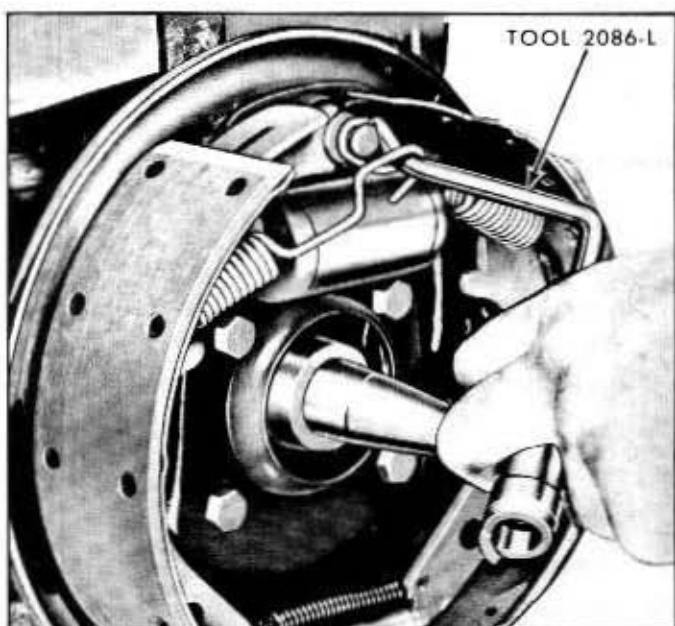

Fig. 2-11—Retracting Spring Installation—(60C-2011)
5. Place the anchor pin plate over the anchor pin. Install the primary shoe retracting spring, followed by the secondary shoe retracting spring. See figure 2-11.